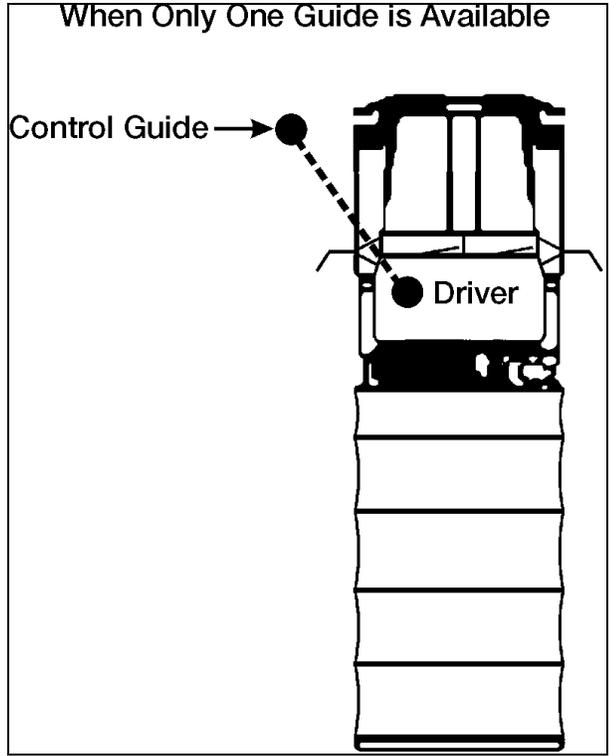

Figure 3-1. One Guide
- (1) That only one person gives hand signals to the driver (if using more than one ground guide).
- (2) For the driver to immediately stop vehicle if the driver loses sight of the ground guide or flashlight (at night).
- (3) If hand signals are not understood, the vehicle must stop and signals clarified.
- (4) To follow the flashlight movements (at night) until the light goes out.
- c. Determine best line-of-sight location for ground guiding (see Figures 3-1, 3-2, and 3-3).